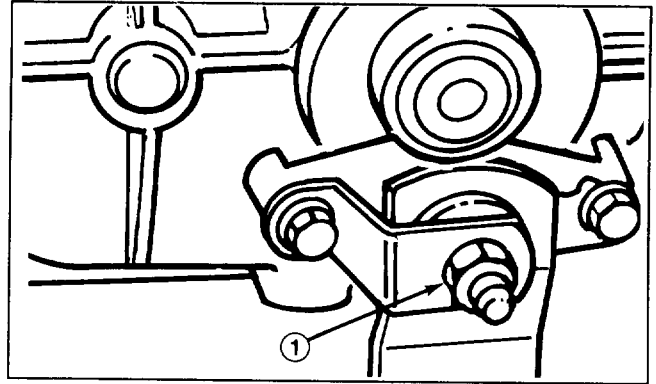

Figure 26
3. Tighten locknut approximately 1/4 turn clockwise (Fig. 26).